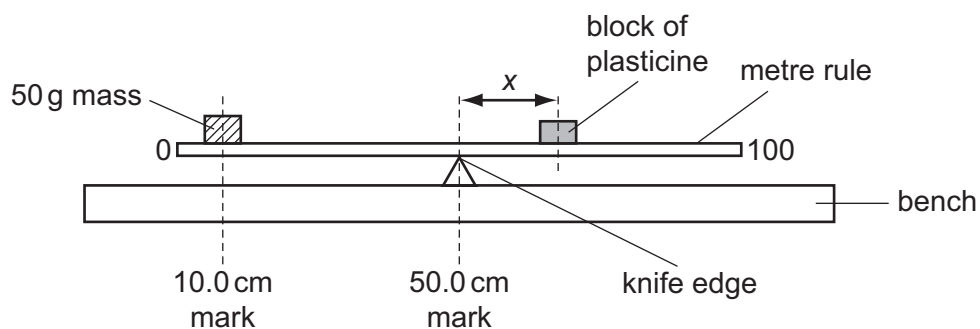

Fig. 3.3
- (iii) Place the knife edge directly under the 50.0 cm mark, as shown in Fig. 3.3.